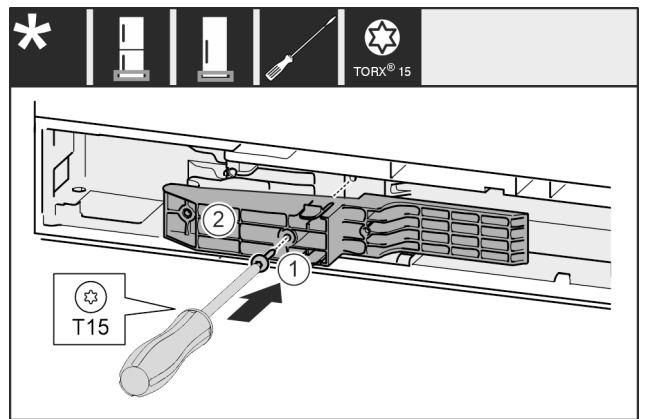

Fig. 67 \*
- ▶ 将把手侧的适配件 Fig. 67 (1)插入凹槽。\*
- ▶ 将螺钉 Fig. 67 (2)用螺丝刀拧紧。\*